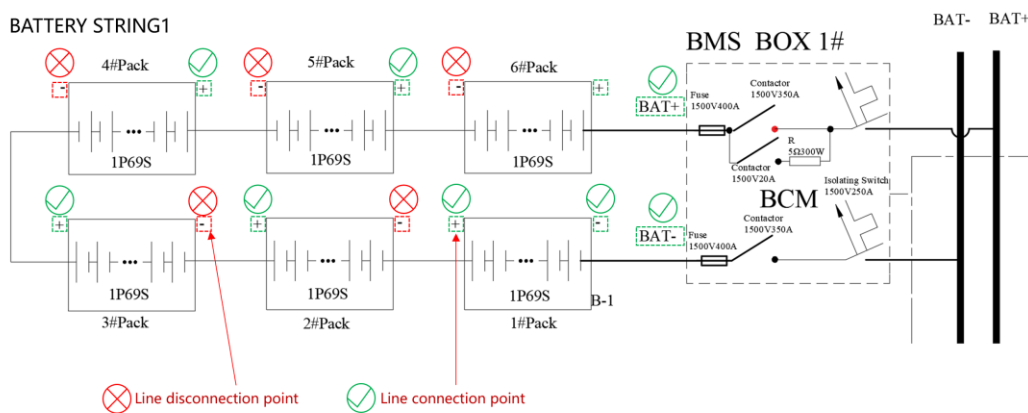

Figure 28: Description of busbar layout
Figure 28: SolBank battery string configuration (1 of 8). The green circle indicates a factory connected battery power cable; a red circle indicates a battery power cable of B+&B- which has been removed for safe transport and must be field installed. See Figure 28
- ✓ Step 2: Visually verify the connection path of all cables in the workflow. All required cables are pre-installed with positive connections and quick connectors at the negative end are secured to the bracket. As shown in Figure 28, the cables connecting Battery 1+ and Battery 6- to the BMS box will be pre-installed and the disconnect switches disconnected to be insulated and secured for safe transport.